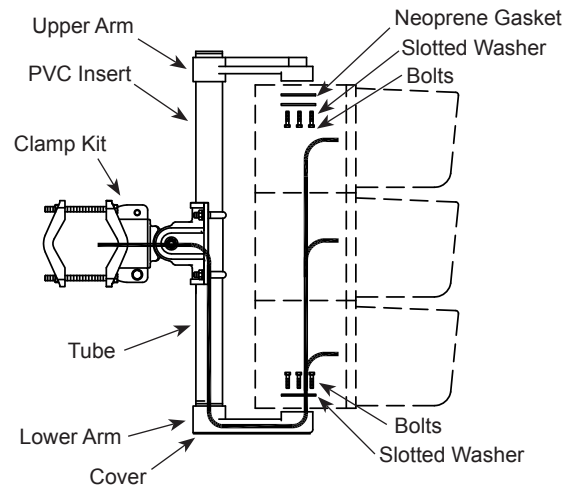

Figure 2 (Atlas shown)
8. Position the lower arm centered on the signal with the tube channel in the back. Using the hardware kit(s) without the neoprene gasket(s), mount the arm to bottom of the signal(s). Torque the bolts to 6 ft-lb. **DO NOT OVERTIGHTEN.** (Figure 2)
10. Slide the upper arm(s) down over the top of the tube and secure to the signal(s) using the hardware kit(s) with the rubber gasket(s). (Figure 2)